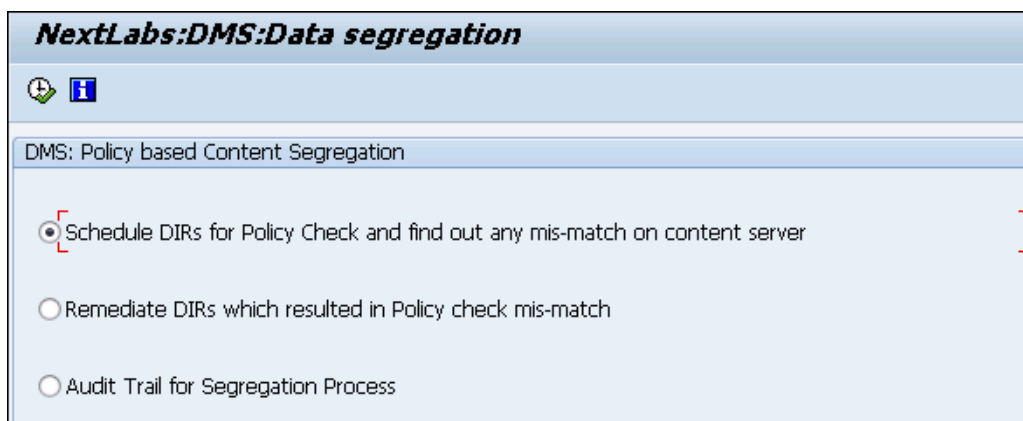

Figure 6-44: Data Segregation utility
- 1 In the SAP interface, enter transaction `/NXLECC/DMS_DSEG`. The *DMS Data Segregation* screen appears, as shown in Figure 6-44.